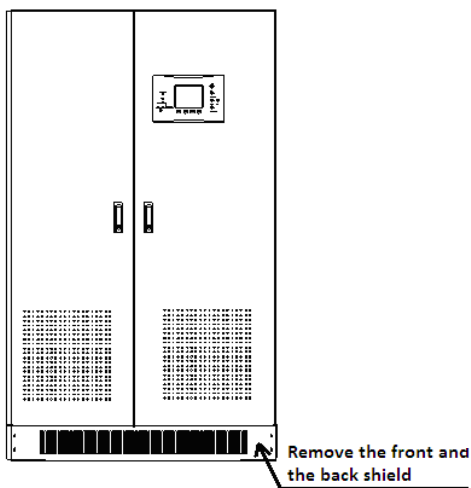

Figure 26: Position schematic diagram of shield
4. Remove the fixed screw before unloading the equipment cabinet from the wooden pallet. Remove the front and the back shield at the bottom of UPS cabinet, and then you will see the screw that fix the cabinet and the wooden pallet, as shown in Figure 26 and 27;